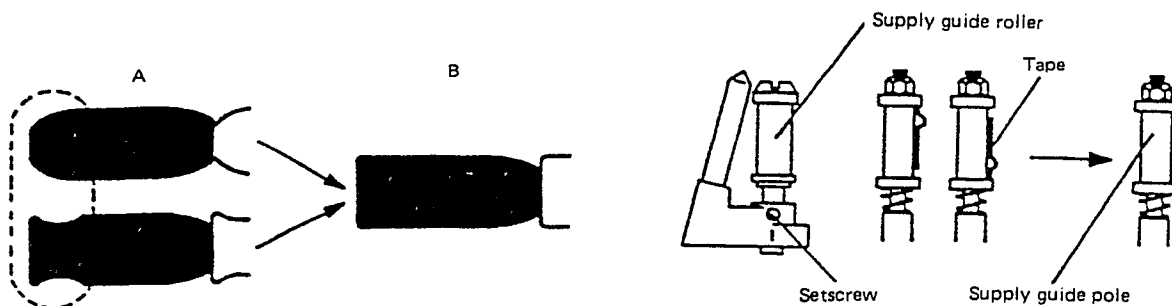

Fig. 31 Drum input adjustment
2. Refer to Fig. 31. Examples of incorrect waveform are shown by A.